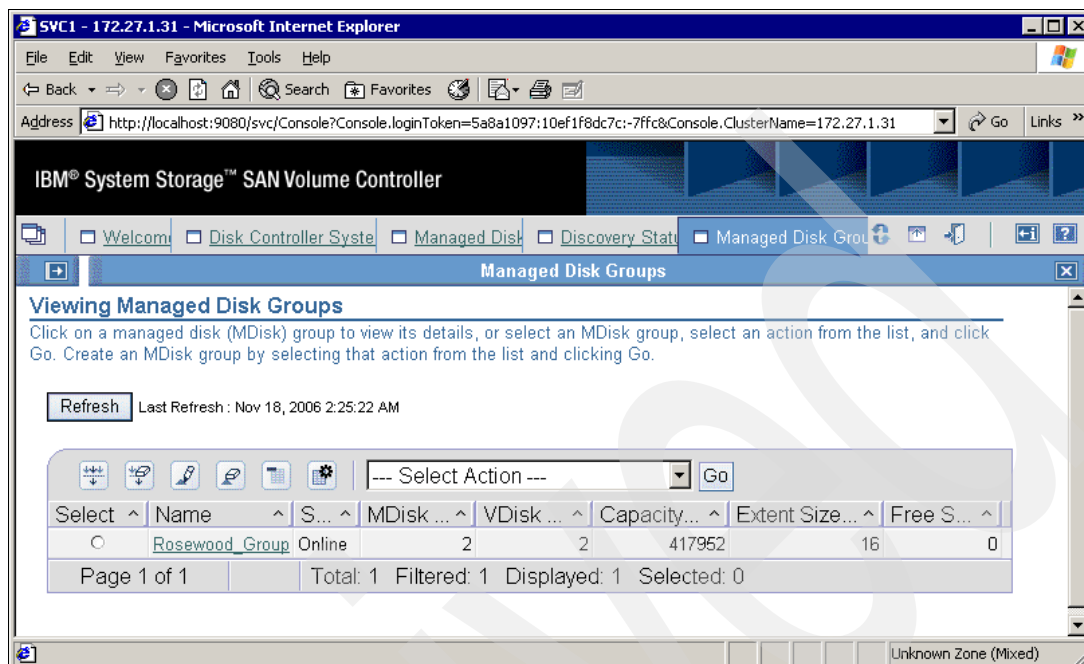

Figure 11-26 View managed disk groups
- Return to the Viewing Managed Disk Groups window where the MDG is displayed (Figure 11-26).